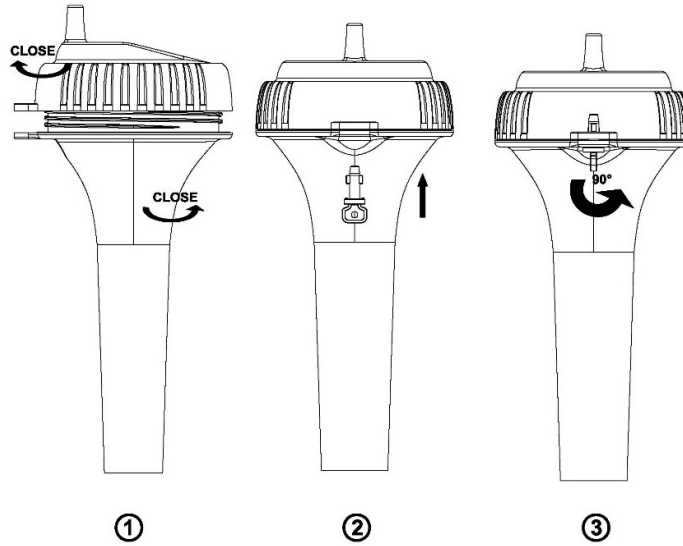

Figure 34
To close the lid, (1) Twist the lid until it is firmly locked, and the button is aligned. (2) Insert the button and turn 90 degrees to lock the lid, as shown in Figure 34.